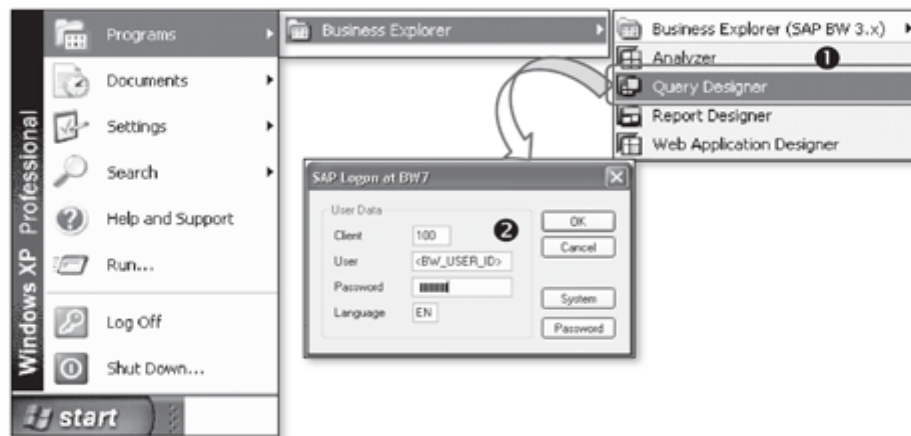

Figure 9.2 Start BEx Query Designer
BEx query designer is a standalone application, so you don't need to log in to the SAP NetWeaver BW frontend applications to use BEx query designer. It can be launched directly from the Start menu of your computer using the path: **START • PROGRAMS • BUSINESS EXPLORER • QUERY DESIGNER** (❶ of Figure 9.2). Select the SAP NetWeaver BW system and login using the user id and password (❷).